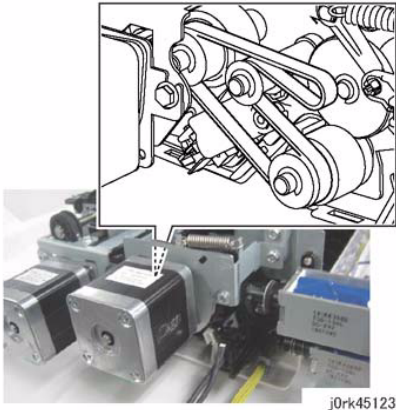

Figure 2 DADF Feed Motor Pulley Install
2. Install the Belt to the Pulley of the DADF Feed Motor. (Figure 2)